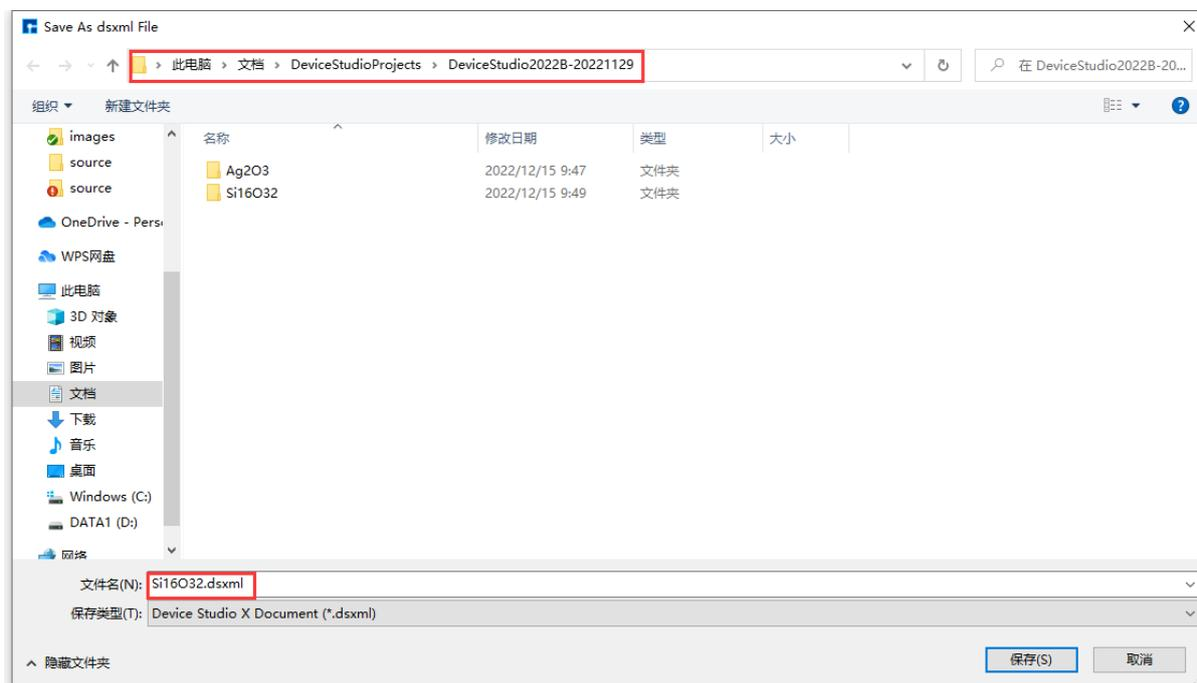

fig. 6.4: Save Structure File (.dsxml) Interface
- – *Save*: Initially grayed out and disabled. It becomes highlighted and enabled after the user edits the atomic structure. Clicking it saves the user's edits to the atomic structure parameters. This action subsequently invokes the *Save As* dialog (as shown in fig. 6.4) to save the structure file (.dsxml).
- – *Save As* : Clicking this button opens a dialog box for saving the structure file (.dsxml), allowing the user to name the file and choose a save location, as shown in fig. 6.4.